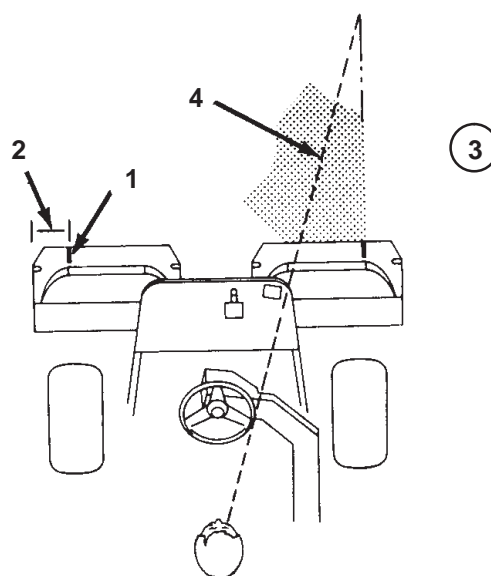

Figure 24
2. Either place a strip of white tape or paint a line onto each basket paralleling the outer edge of each basket (Fig. 24).
3. Overlap a minimal amount with the previous cut on return passes. To assist in maintaining a straight line across the green and keep the machine an equal distance from the edge of the previous cut, establish an imaginary sight line approximately 6 to 10 ft. (1.8 to 3 m) ahead of the machine to the edge of the uncut portion of the green (Fig. 24 and 25). Some find it useful to include the outer edge of the steering wheel as part of the sight line; i.e. keep the steering wheel edge aligned with a point that is always kept the same distance away from the front of the machine (Fig. 24 and 25).